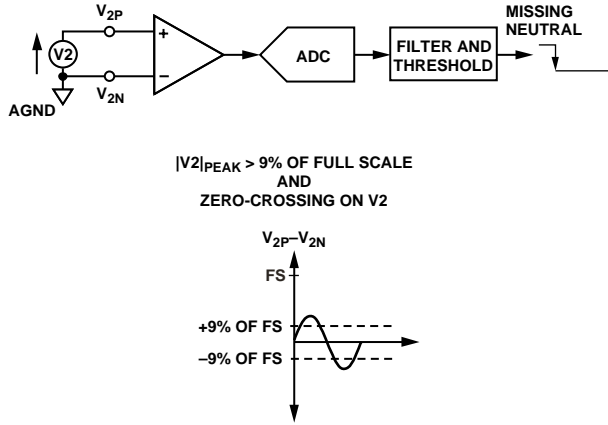

Figure 32. Return to Normal Mode after Missing Neutral Detection
**Case 1:** When the analog input  $V_{2P} - V_{2N}$  complies with the conditions described in Figure 32, CF, F1, and F2 frequencies are proportional to active power and can be used to bill active energy.
**Case 2:** When the analog input  $V_{2P} - V_{2N}$  does not comply with the conditions described in Figure 32, the ADE7761 does not measure active energy, but a quantity proportional to kAh. This quantity is used to generate pulses on the same CF, F1, and F2. This situation is indicated when the FAULT pin is high.
The ADE7761 leaves the missing neutral mode for normal operation when both conditions are no longer valid—voltage peak value greater than 9% of full scale and zero crossing on the voltage channel detected (see Figure 32).